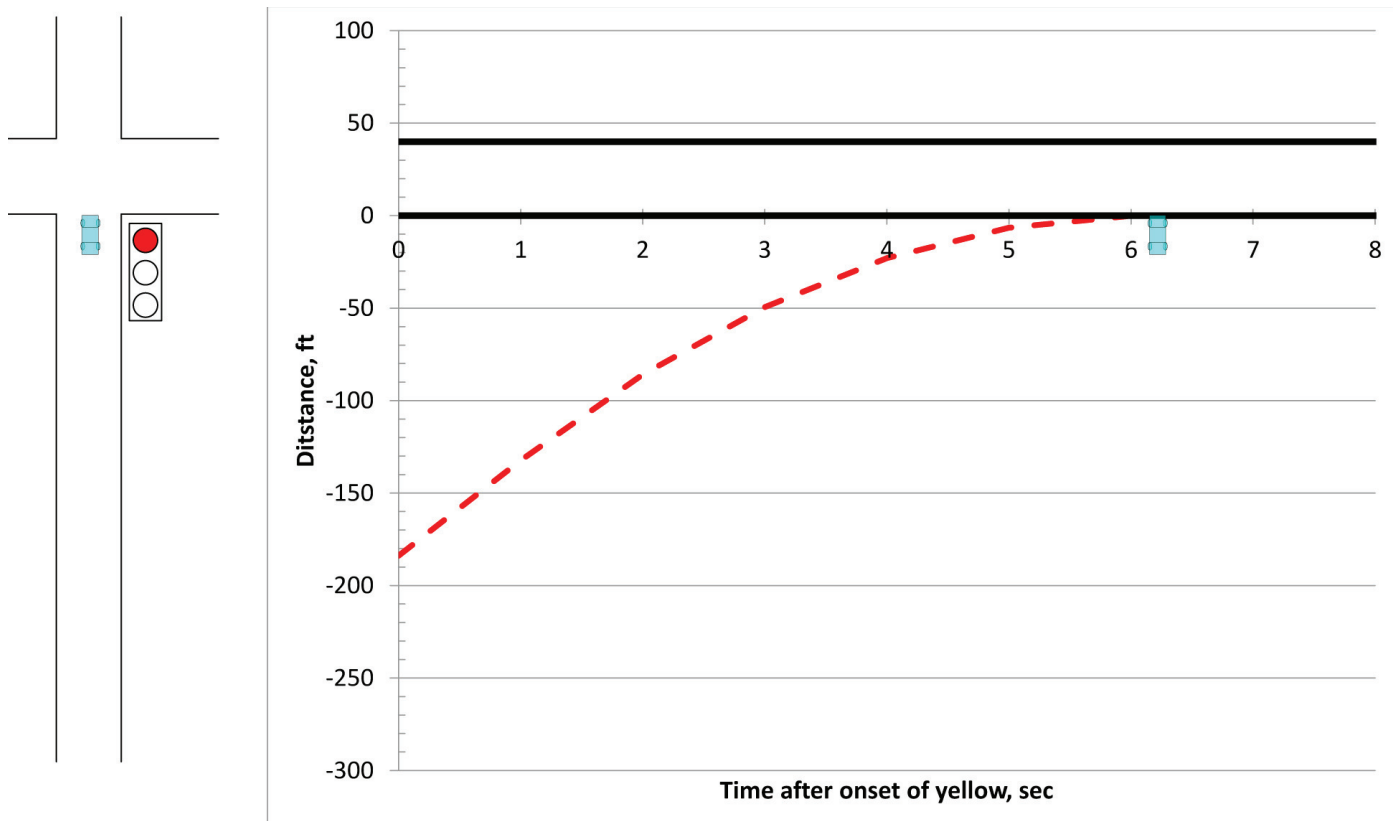
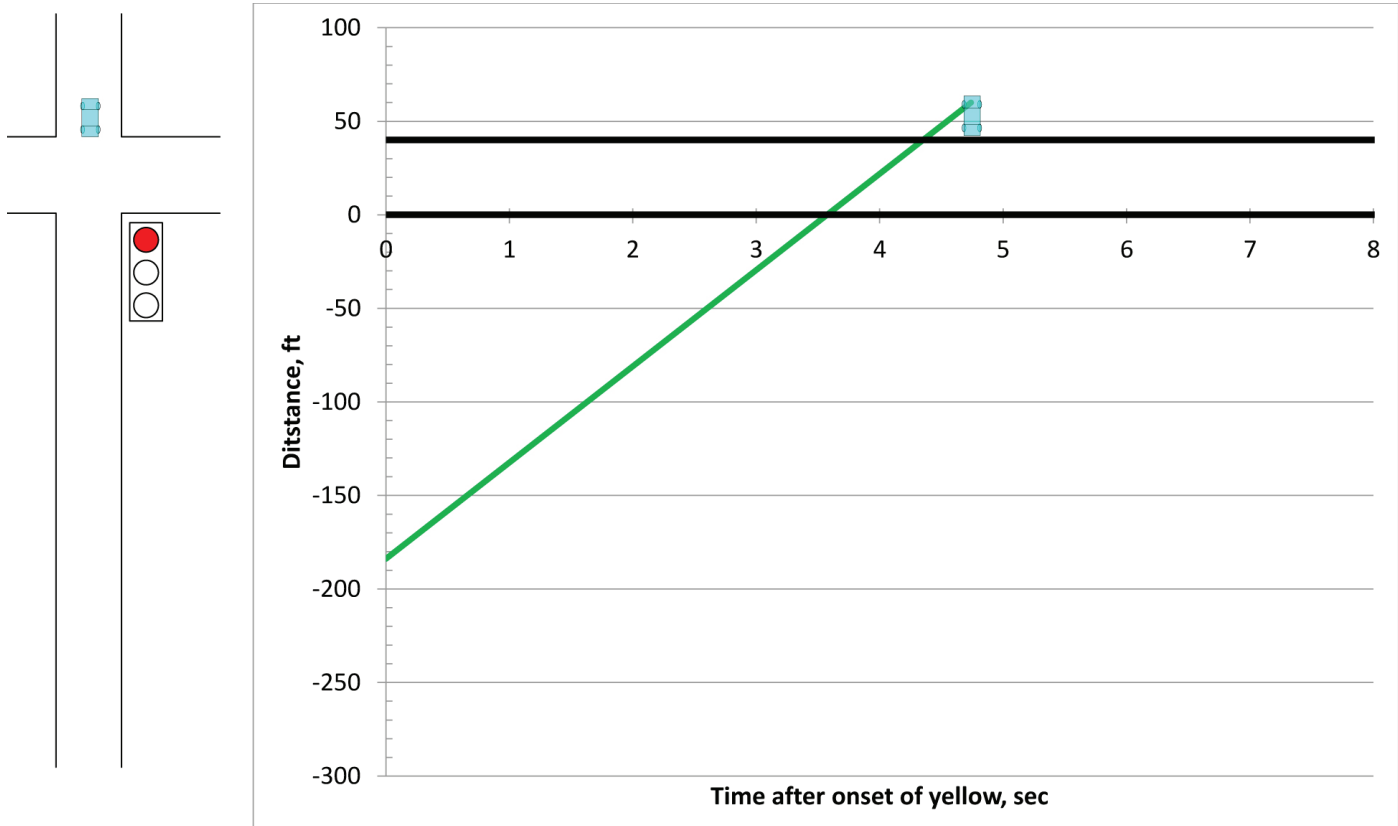

Figure 171. Vehicle trajectory stopping in response to yellow indication
Figure 172. Vehicle trajectory safely passing through the intersection
The trajectory of this vehicle is shown in Figure 171. The trajectory is linear during the one second of the perception-reaction process, and curvilinear during the braking time.
Now let's look at the trajectory of a vehicle starting at this choice point (184 feet upstream of the intersection), and continuing through the intersection until its rear bumper clears the far side of the intersection (as shown in Figure 172). This is the clearance distance (x_c) and is equal to sum of the stopping distance (x_s), the width of the intersection (w), and the length of the vehicle (L). We know from the discussion above that the sum of the yellow and red clearance times must be equal to the time that it takes to travel the clearance distance (x_c). Assuming in this example that the intersection width is 40 feet and the vehicle length is 20 feet, then:
After reviewing the trajectories from Figure 171 and Figure 172, we can see that it makes sense to allocate the sum of the yellow and red clearance times calculated above (4.7 seconds) into two parts. The yellow time (3.6 seconds in this example) is the travel time from the choice point to the stop bar for a driver that chooses not to stop, a result that puts the vehicle at the entry point to the intersection (at the stop bar) just as the display changes from yellow to red. The red clearance time (1.1 seconds) is the travel time from the entry of this vehicle into the intersection until its rear bumper clears the far side of the intersection.